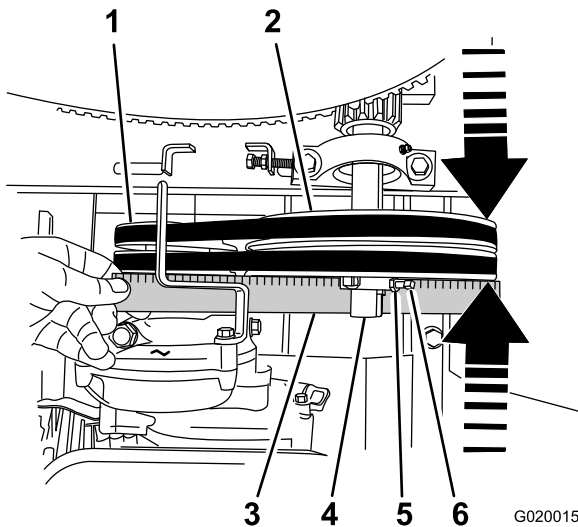

Figure 62
- B. Loosen the locknuts and setscrews that secure the idler pulley to the idler shaft (Figure 62).
- C. Using a soft-face mallet, tap the idler pulley forward or backward along the idler shaft until the engine pulley and the idler pulley are aligned to the straight edge (Figure 62).
- D. Tighten the setscrews and locknuts that secure the idler pulley to the idler shaft (Figure 62).
2. Place a straightedge across the face of the engine pulley and the idler pulley (Figure 62).